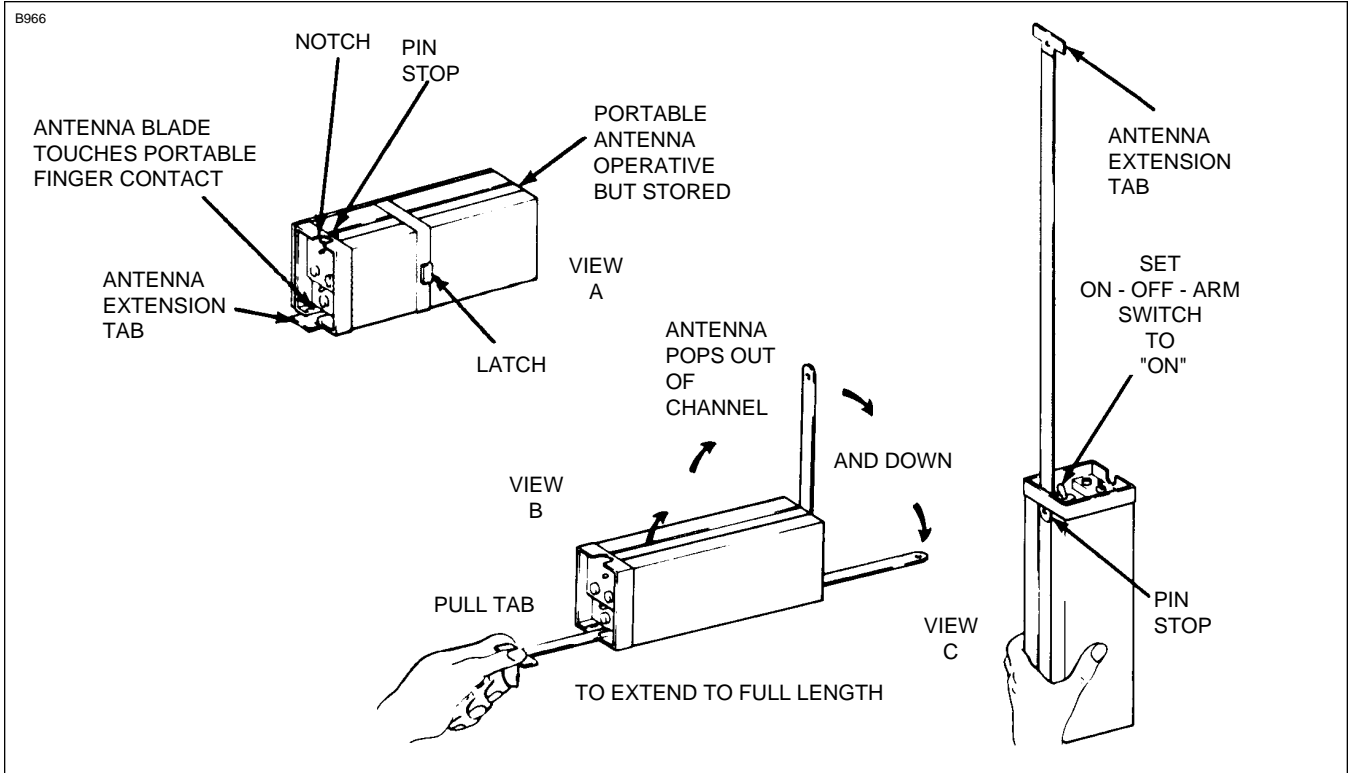

Figure 12-1. ELT Portable Folding Antenna.
12-4. BATTERY REMOVAL AND INSTALLATION (NARCO.) (Refer to Figure 12-1 or 12-2.)
- l. Connect the antenna coaxial cable to the ELT and ensure that the contact separator is inserted between the antenna contact finger and portable antenna. (Refer to Figure 12-1.)